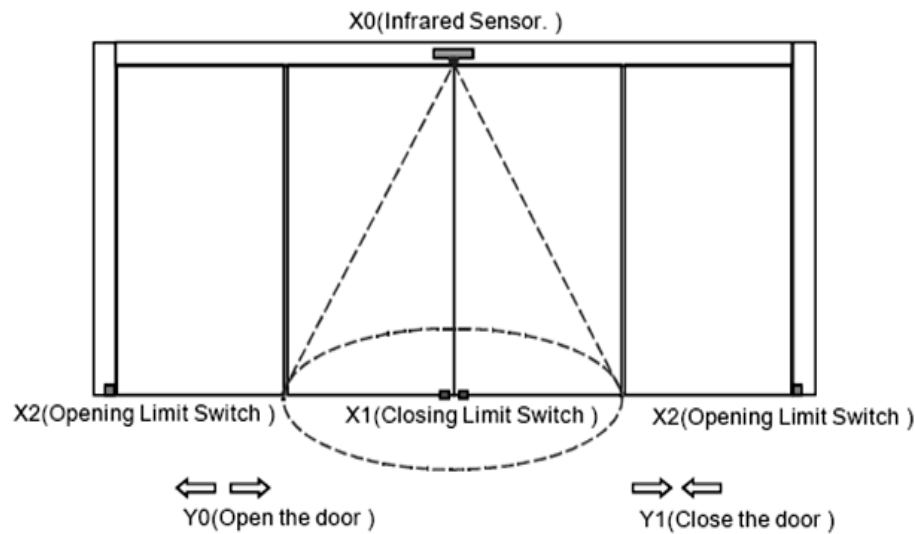

Fig. 1. Automatic Door Control System
- (c) Develop a Ladder Diagram for the Automatic Door Control System shown in Fig. 1. 7